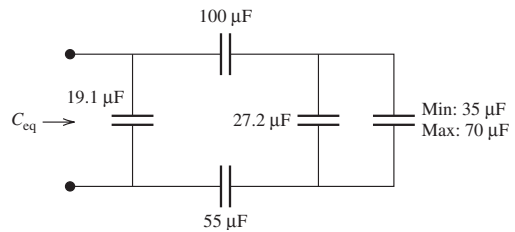

FIGURE P4.30 Capacitor network.
- 4.30 (A) Find the minimum and maximum values for C_{eq} as shown in Figure P4.30.